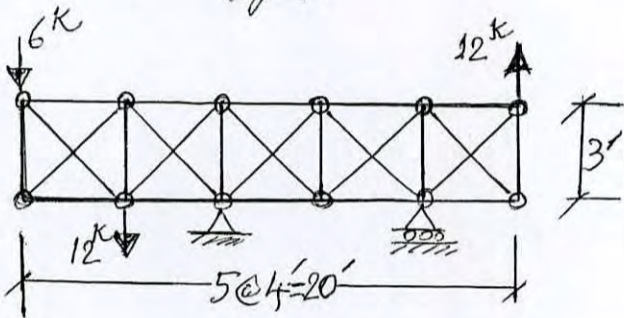

Fig. 9
11. Using approximate method determine the bar forces in the truss shown in Fig. 9. Diagonals can not carry any compression. **(28)**